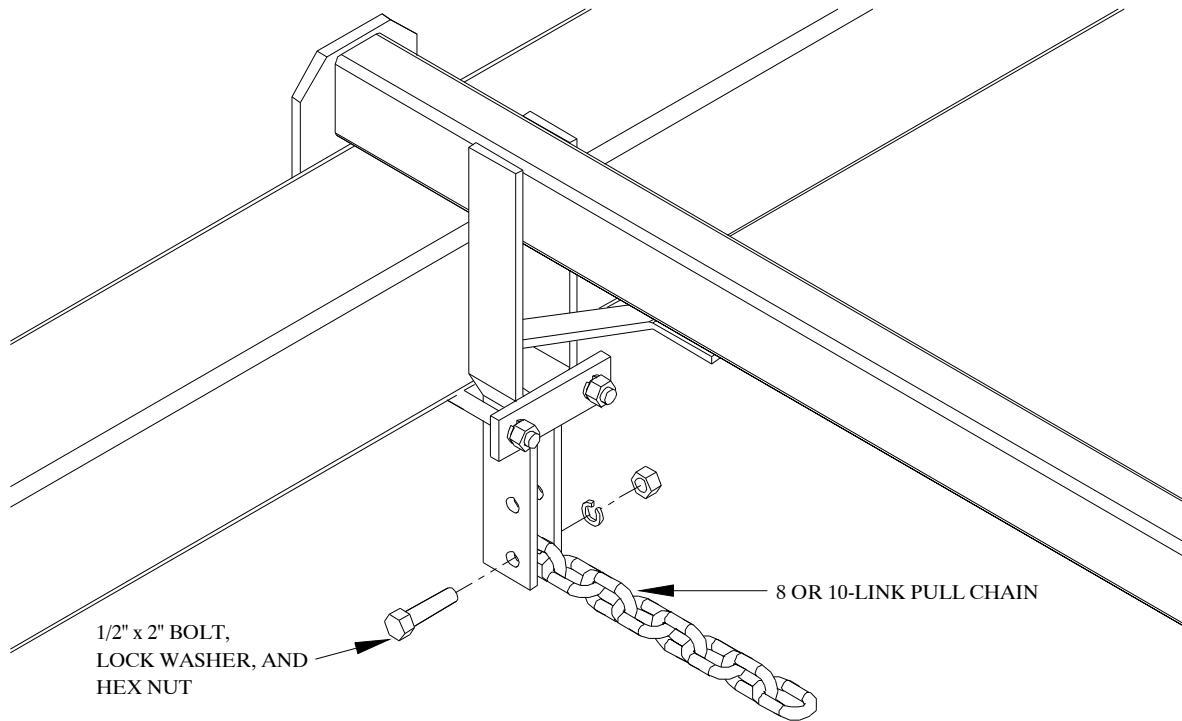

Figure 11
3. Bolt an 8 or 10-link pull chain in between each of the lift arm pull points. (10-link for 8-bar harrow sections; 8-link for all other configurations.) Use 1/2" x 2" bolts, lock washers, and hex nuts. Refer to Figure 11.